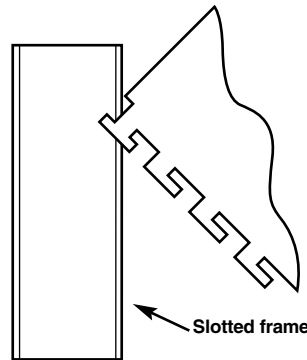
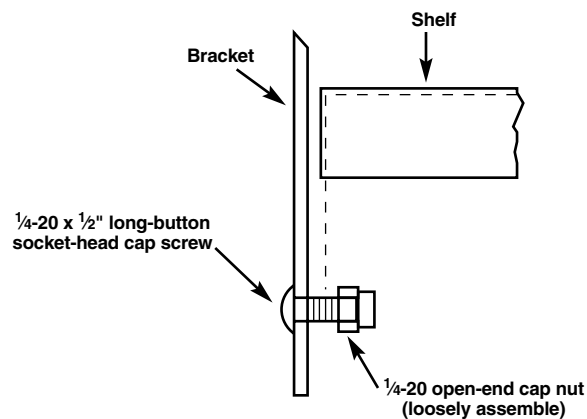

Figure 3-14. Installing the end brackets.
Figure 3-15. Attaching the hardware.
2. Install the end brackets to the slotted frame (Figure 3-14) before attaching the shelves to the brackets as shown in Figure 3-15.